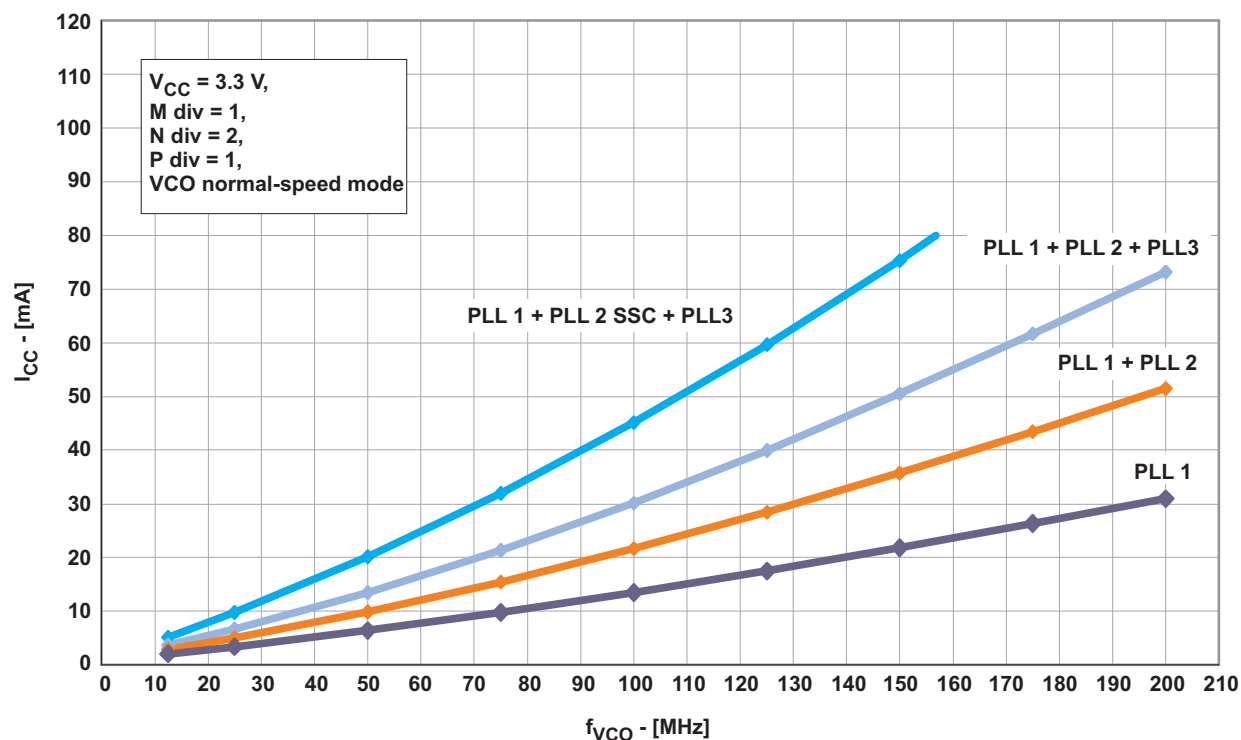
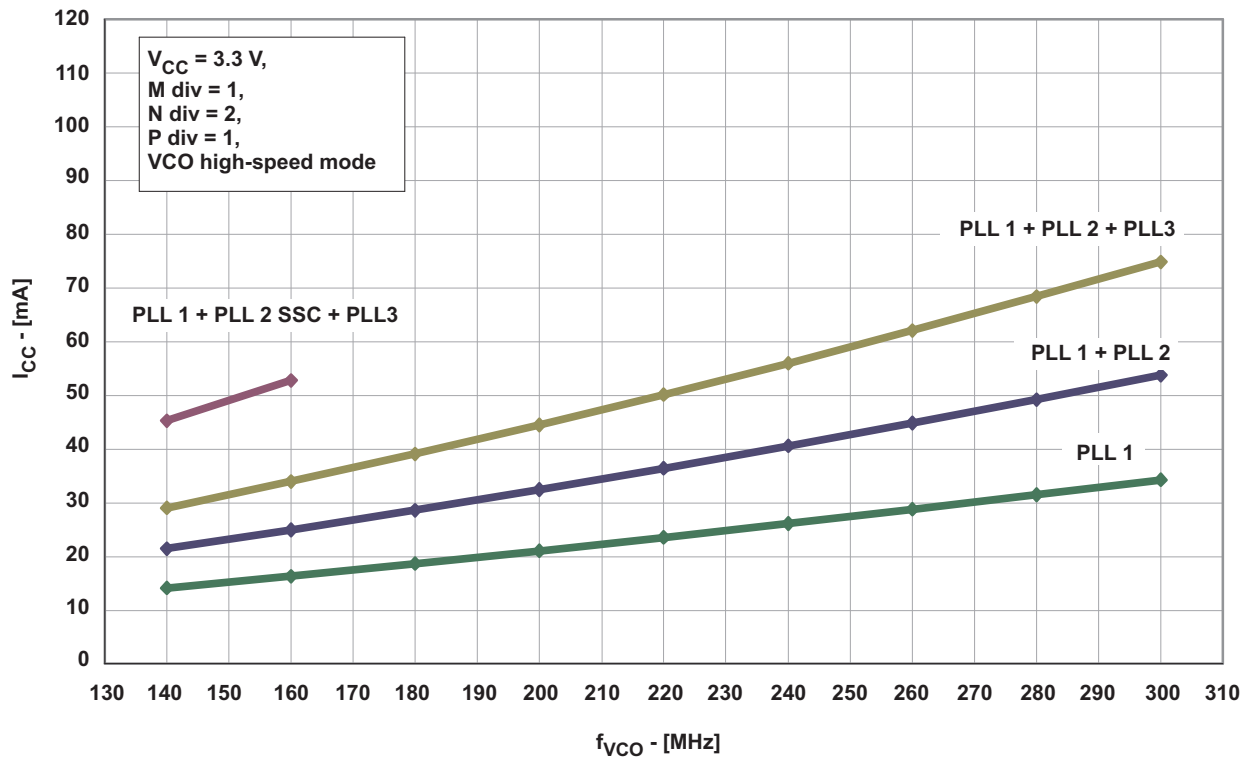
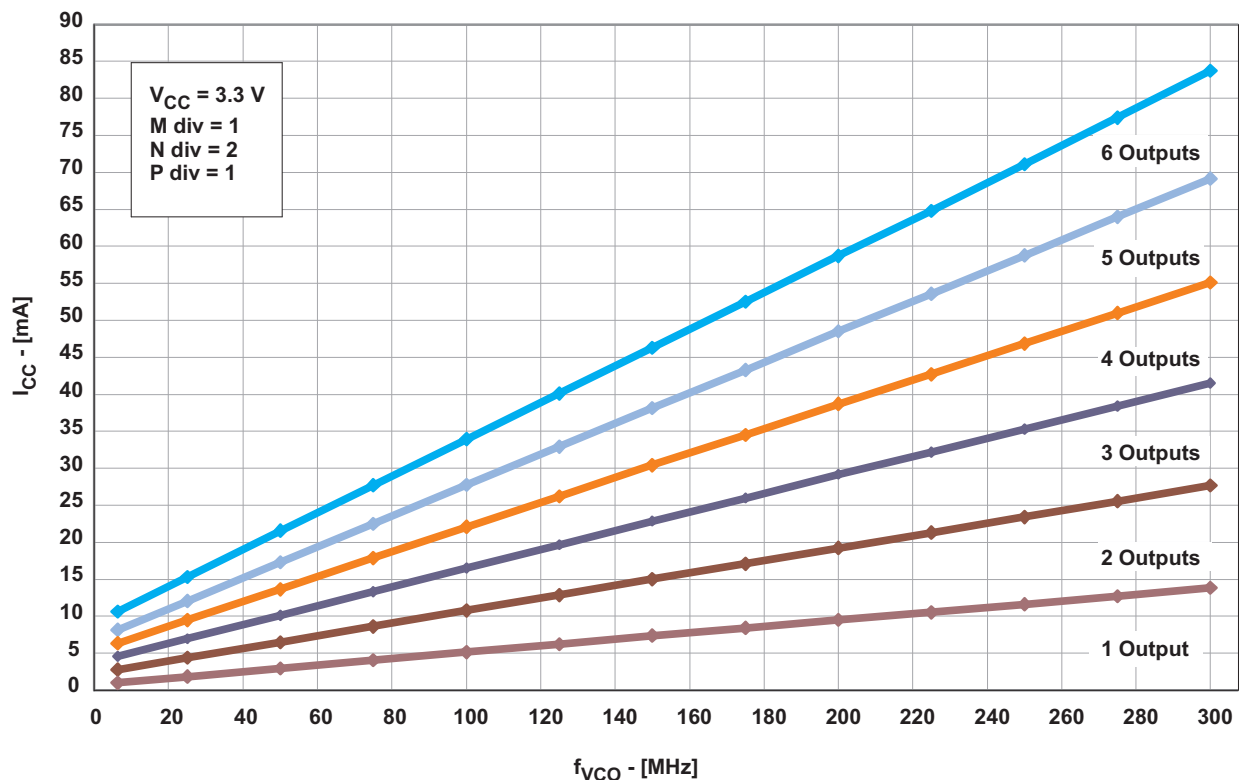
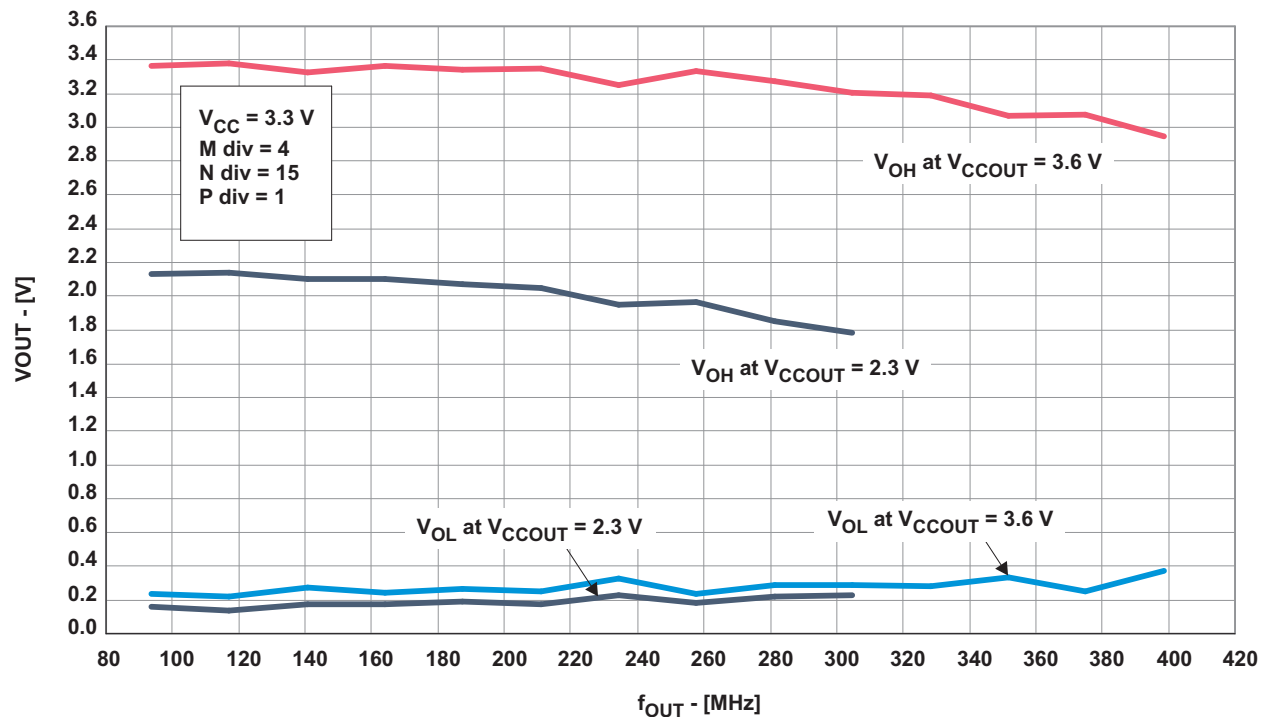

Figure 2. I_{CC} vs Number of PLLs and VCO Frequency (VCO at Normal-Speed Mode, Byte 6 Bit [7:5])
Figure 3. I_{CC} vs Number of PLLs and VCO Frequency (VCO at High-Speed Mode, Byte 6 Bit [7:5])
Figure 4. I_{CCOUT} vs Number of Outputs and VCO Frequency
Figure 5. Output Swing vs Output Frequency
(1) All typical values are at respective nominal V_{CC} .
(2) For calculating total supply current, add the current from Figure 2, Figure 3, and Figure 4. Using high-speed mode of the VCO reduces the current consumption. See Figure 3.
(3) Normal-speed mode or high-speed mode must be selected by the VCO frequency selection bit in Byte 6, Bit [7:5]. The min $f_{(VCO)}$ can be lower but impacts jitter-performance.
(4) Do not exceed the maximum power dissipation of the 20-pin TSSOP package (600 mW at no air flow). See Figure 5
(5) 50000 cycles.
(6) Jitter depends on configuration. Jitter data is normal t_r/t_f , input frequency = 3.84 MHz, $f_{(VCO)} = 245.76$ MHz.